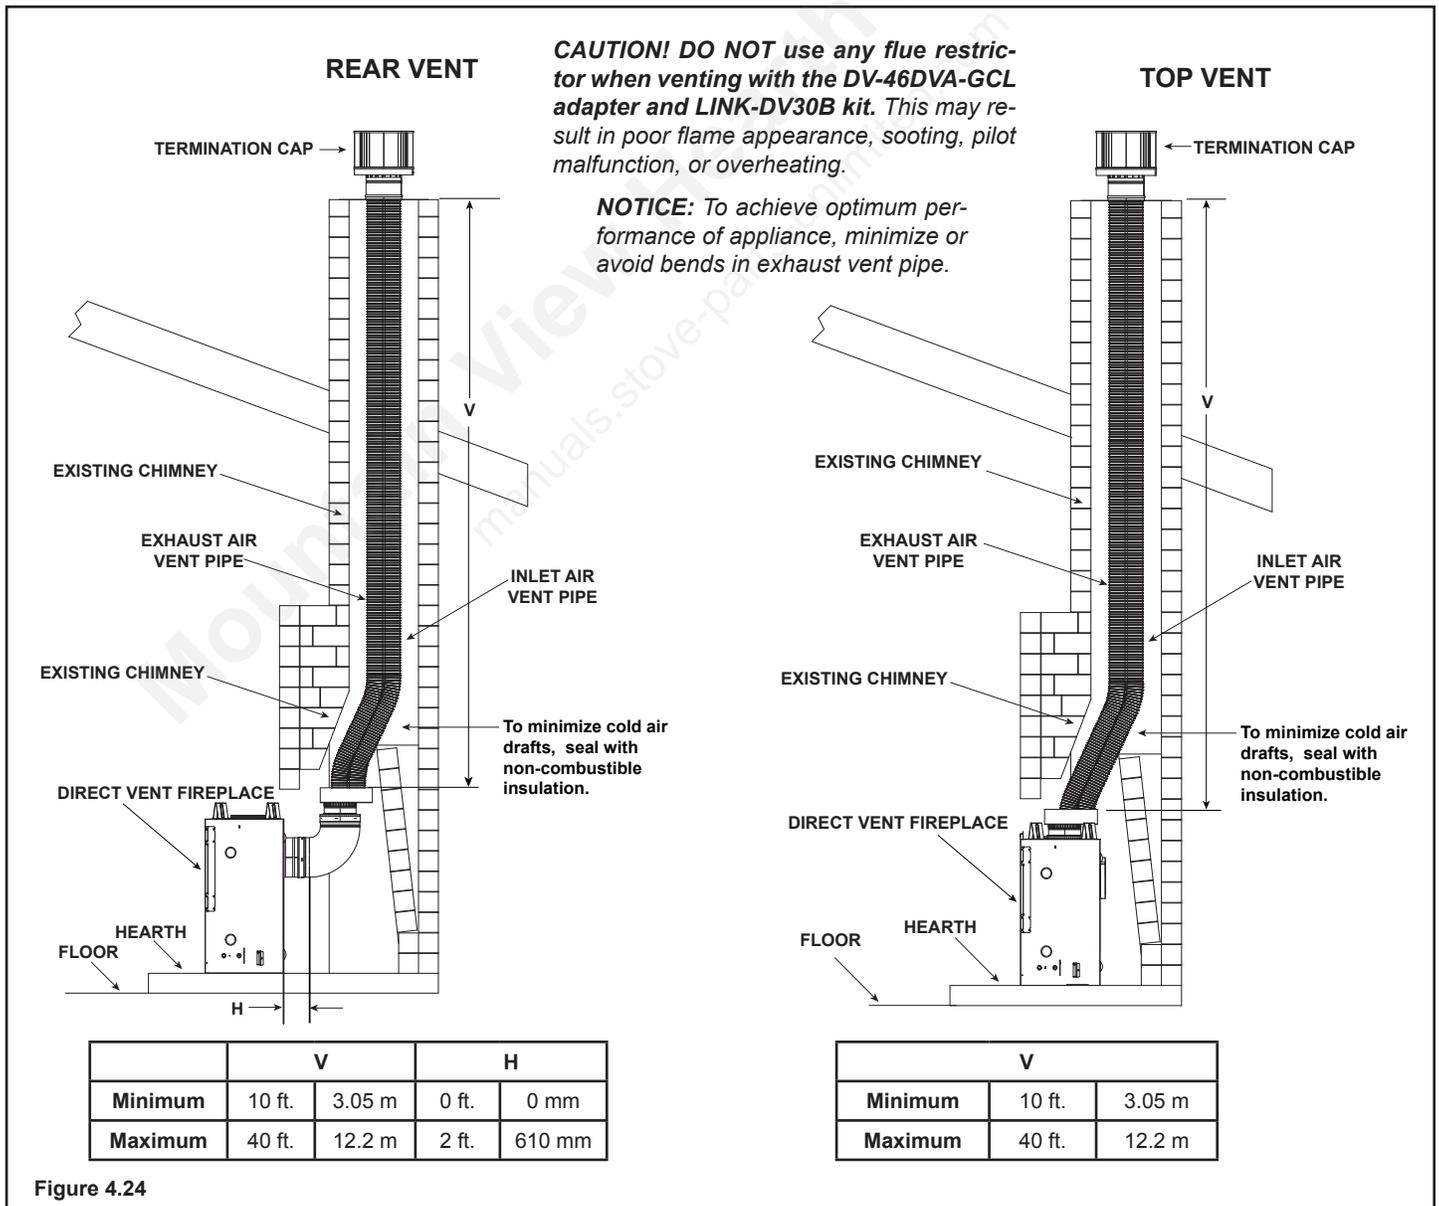

Figure 4.24
SLP Collar: Install the DV-46DVA-GCL adapter to the appliance starting collar with 3-1/2 in. self-tapping screws. See Figure 4.24.
- Remove the rear seal cap and insulation if equipped. Connect the DVP-2SL adapter to the vertically positioned elbow. Follow installation instructions included with DVP-2SL kit. Secure DV-46DVA-GCL adapter to DVP-2SL with 3-1/2 in. self-tapping screws. See Figure 4.24.